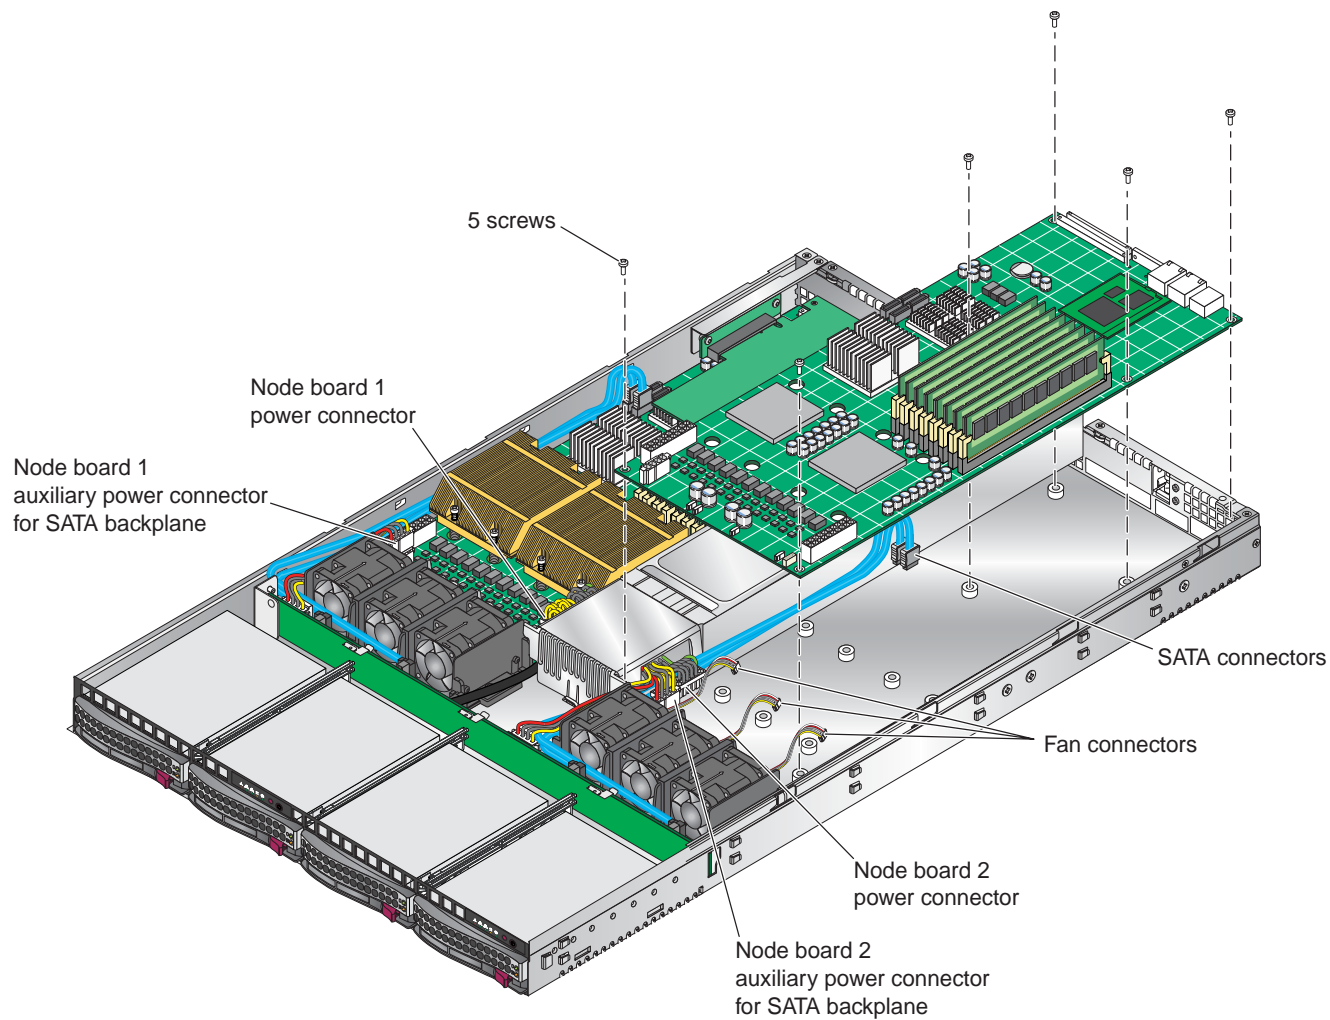

Figure 4-2 Node Board Installation
- a. Carefully mount the node boards by aligning the board holes with the raised metal standoffs that are visible in the chassis (refer to Figure 4-2).
A node board has two 20-pin ATX power supply connectors (refer to Figure 4-2) that can be connected to the ATX power supply. Only one of these connectors is used when the node board is installed in the chassis. Each node board also provide a 4-pin auxiliary power connector used to connect disk drive power to the SATA backplane.